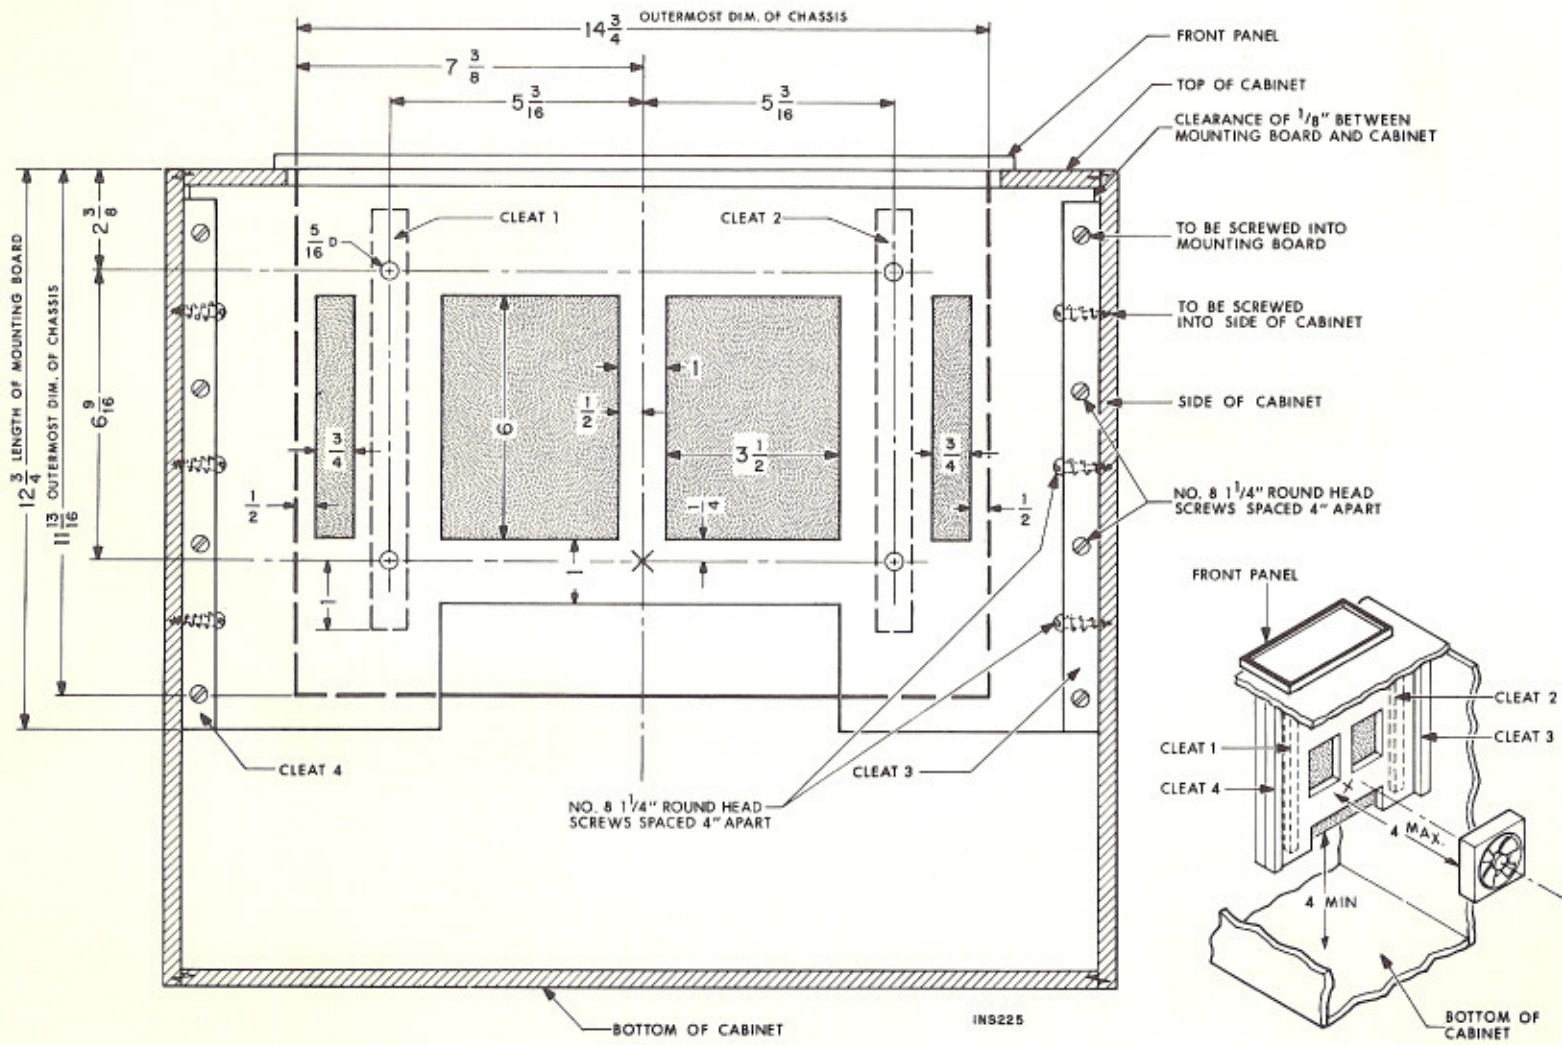

Figure 7. Side view of custom cabinet installation (vertical mounting)
(2) Cut the mounting board shown in Figure 7 from a piece of $\frac{3}{4}$ -inch plywood. The width of the mounting board should be $\frac{1}{4}$ inch less than the inside width of the cabinet, to allow for the clearance of $\frac{1}{8}$ inch as shown in Figure 7. Cut the holes indicated as shaded areas in Figure 7.
(3) Cut two cleats $8\frac{3}{8}$ inches long (cleats 1 and 2) from a piece of $\frac{3}{4}$ by $\frac{3}{4}$ -inch stock.
(4) Cut two cleats $12\frac{3}{4}$ inches long (cleats 3 and 4) from a piece of 1 by 1-inch stock.
(5) Drill a $\frac{1}{4}$ -inch hole 1 inch from one end of cleats 1 and 2. Drill a second $\frac{1}{4}$ -inch hole space $6\frac{3}{8}$ inches from the first hole on both cleats.
(6) Drill $\frac{3}{8}$ -inch holes in cleats 3 and 4 as shown in Figure 7.
(8) Mount the fan in place, as shown in Figure 7. The axis of the fan should be pointed toward the spot on the mounting board marked 'X'. The fan must be no more than 4 inches away from the bottom of the mounting board, and should blow air towards the chassis.
(9) Fasten the TX-300 and cleats 1 and 2 to the mounting board with the four $1\frac{3}{4}$ -inch screws provided.
(10) Secure the mounting board to cleats 3 and 4 as shown, using #8 $1\frac{1}{4}$ -inch round head screws.
(11) Plug the fan into the receptacle on the rear of the TX-300. If the fan has a switch, it should be left permanently in the ON position.